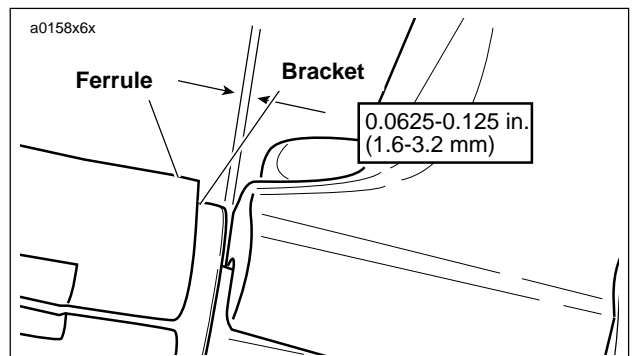

Figure 1-13. Adjusting Clutch Freeplay
5. Remove spring (4) and lockplate (5). Turn adjusting screw (6) counterclockwise until it lightly bottoms.
6. Turn adjusting screw (6) clockwise 1/4 turn. Install lockplate (5) and spring (4) on adjusting screw flats. If hex on lockplate does not align with recess in outer ramp, rotate adjusting screw clockwise until it aligns.
- a. See Figure 1-13. Pull ferrule (end of cable housing) away from bracket. Gap between ferrule and bracket should be 0.0625-0.125 in. (1.6-3.2 mm).